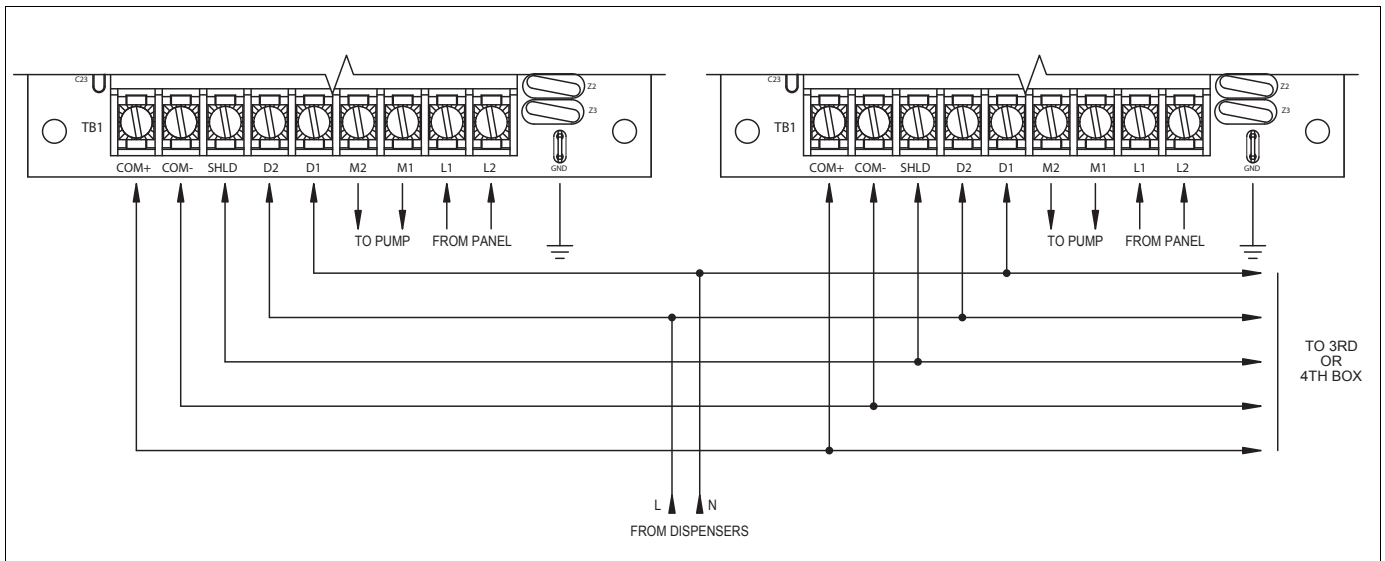
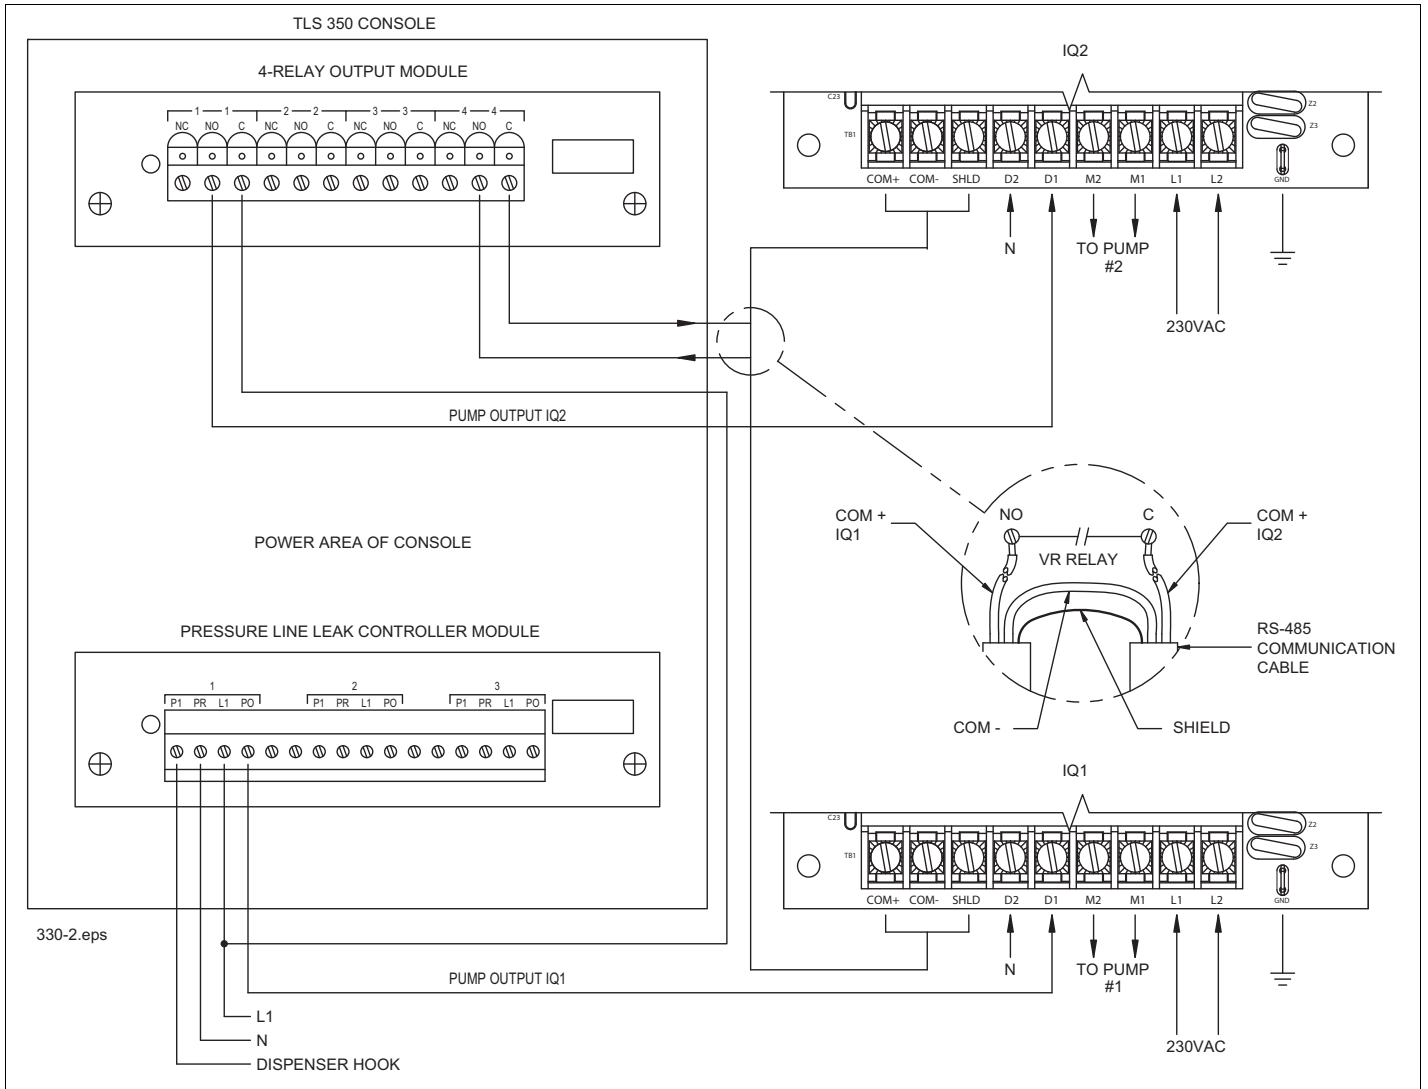
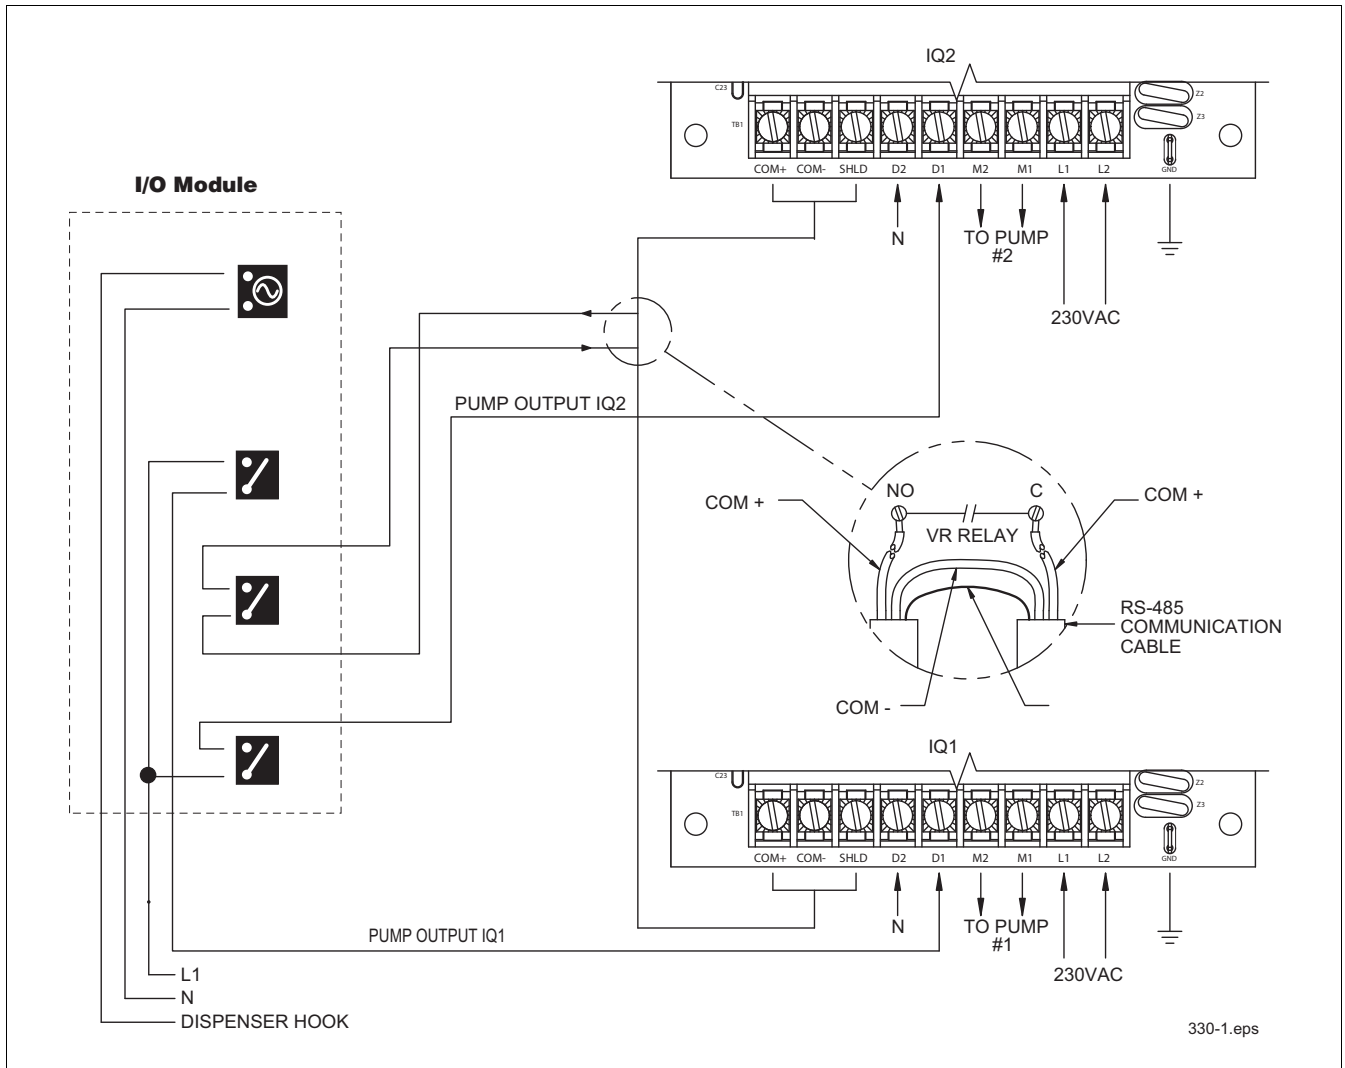

Figure 3. Wiring Diagram for Manifolded Systems
Figure 4. Wiring Diagram for IQ with TLS-350 Manifolded PLLD Systems
Figure 5. Wiring Diagram for IQ Box with TLS-450 manifolded DPLLD Systems
8. Installations that will operate pumps in a manifolded configuration require a two conductor, twisted pair with shield (min. 22 AWG) connected to the COM+, COM-, and SHIELD terminals of TB1. Daisy chain the communication cable to all of the controllers as shown in Figure 3. Belden 9462, or equivalent cable is acceptable. The RS-485 link between pump controllers is not intended to be connected to other Red Jacket electronic equipment such as Prolink, CPT, VSFC or other ATG devices. However, it may be necessary to break communications in PLLD or DPLLD applications as shown in Figure 4 and Figure 5. This cable must be installed in conduit.